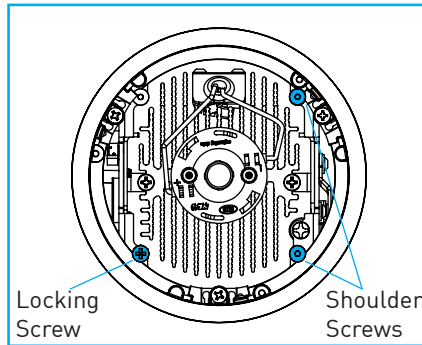

Fig.25
- Remove adjustment mechanism by loosening locking screw and removing two shoulder screws "Fig.25".
- Reinstall adjustment mechanism by installing shoulder screws and tightening the locking screw "Fig.25".